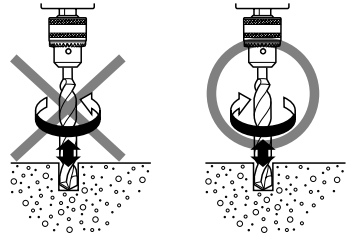

Fig. 1
5. Always use the impact drill with clockwise rotation, when using it as an impact drill. (Fig. 1)